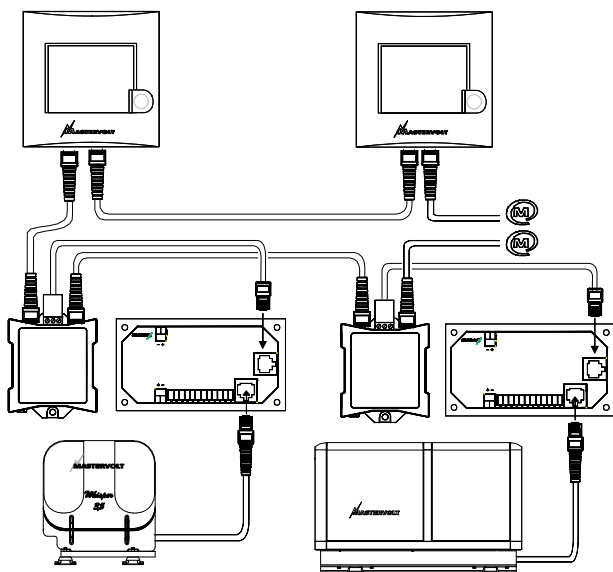

Figure 19:
- By setting up one MasterBus network with two MasterBus remote control panels. See figure 19. Here each MasterBus remote control panel should be configured as dedicated panel for its corresponding generator set. To do so, see section 6.3.2.